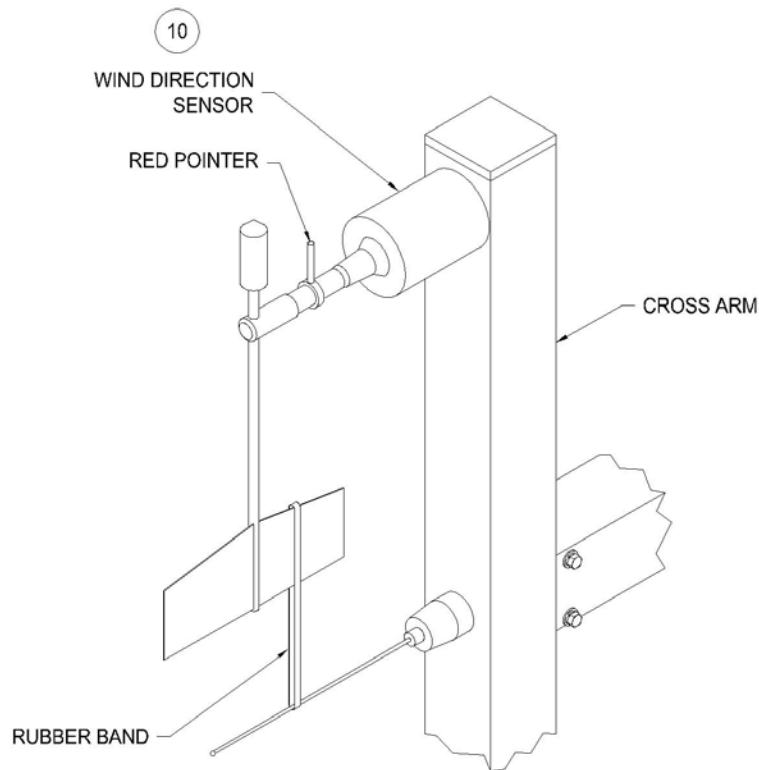

Figure 4
6. Position the wind vane so that it is vertical and parallel to the red pointer installed on the sensor body. Secure the vane in that position by placing a rubber band around the tail of the direction vane and the transmitter antenna as shown in figure 4. Erect the tower into the